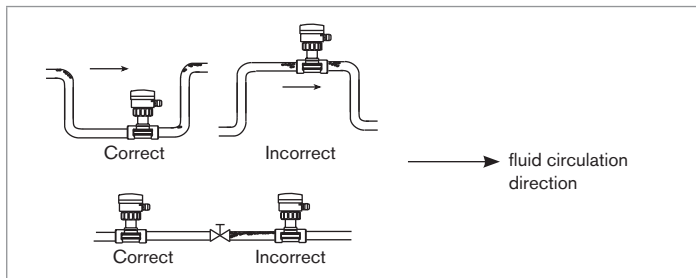

Fig. 10 : Air bubbles in the pipe
- prevent the formation of air bubbles in the pipe in the section around the sensor (see Fig. 10) ;